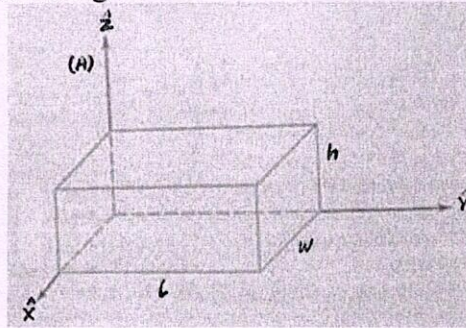

Fig. 2
- 5 a) Find inertia tensor for the rectangular body of uniform density ρ w.r.t the coordinate system shown in fig. 2 5